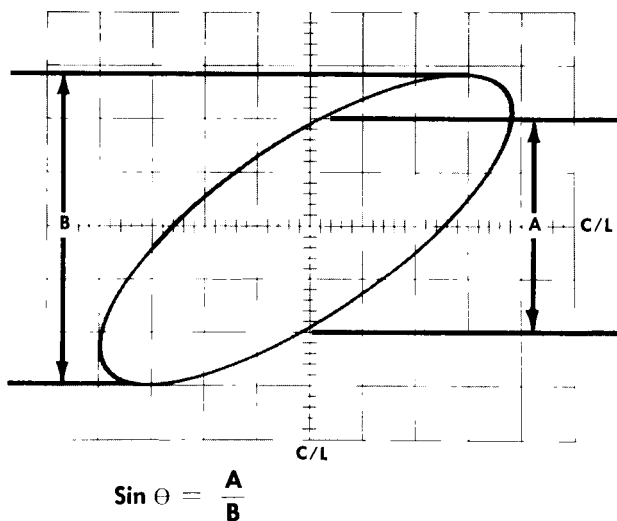

Fig. 3-1. X-Y method of calculating phase difference ( $\theta$ ) between two sine waves.
8. If the input signals are sine waves, the display will probably be an ellipse. Fig. 3-1 shows a method for calculating the phase difference between the two signals. (If the display appears as a diagonal straight line, the two sine waves are either in phase or 180° out of phase; if the display is a circle, the two sine waves are 90° out of phase.)